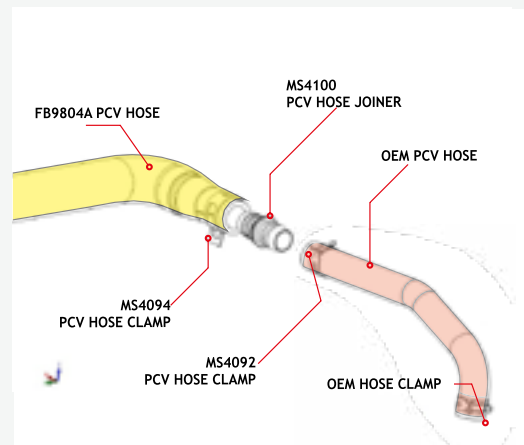

FIGURE 5B
- 5 Install the larger end of the shorter supplied MH9804A PCV hose on to the upper, outlet port, of the RCC351 Catch Can and tighten with a MS4091 hose clamp. Install the other end of the MH9804A PCV hose on to the supplied MS4100 PCV hose joiner, tightening with a MS4094 PCV hose clamp. Insert other end of MS4100 PCV hose joiner into the open end of the OEM PCV hose and tighten with a supplied MS4092 hose clamp as shown in FIG. 5B.